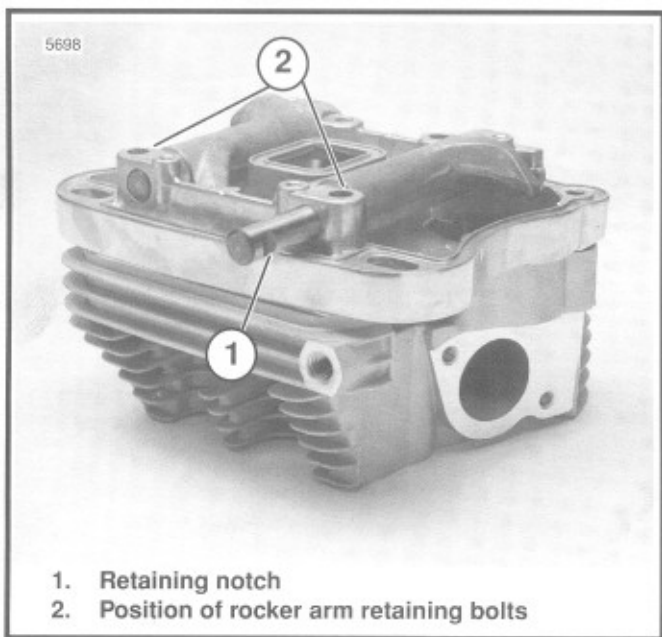

Figure 3-6. Removing Rocker Arm Shafts
- See Figure 3-6. Remove rocker arm shafts by tapping them out using a hammer and a soft metal punch.